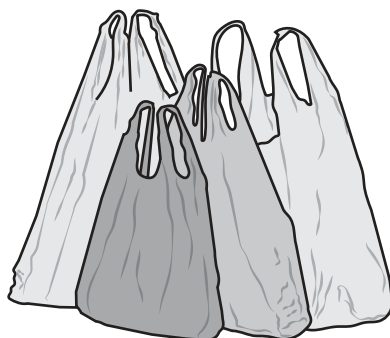

Fig. 9.1
- 9 Fig. 9.1 shows a variety of supermarket shopping bags made from plastic and the symbol showing the type of plastic from which the bags are made.